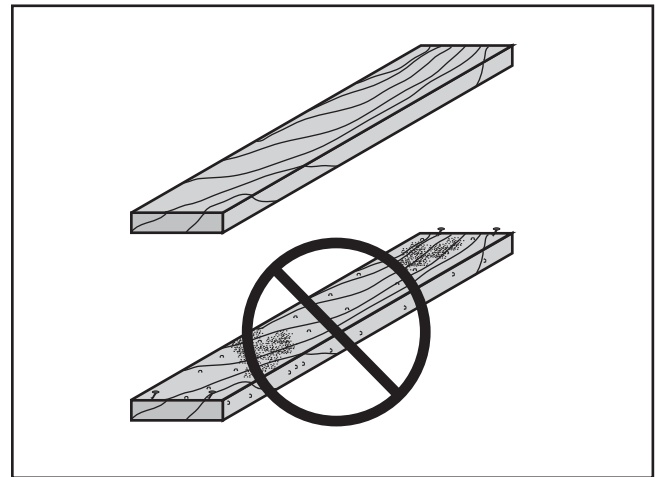

Figure 67. Choosing wood without foreign objects embedded.
- **Foreign Objects (Figure 67):** Nails, staples, dirt, rocks and other foreign objects are often embedded in wood. While cutting, these objects can become dislodged and hit the operator or break the blade, which might then fly apart. Always visually inspect your workpiece for these items. If they can't be removed, do NOT cut the workpiece.